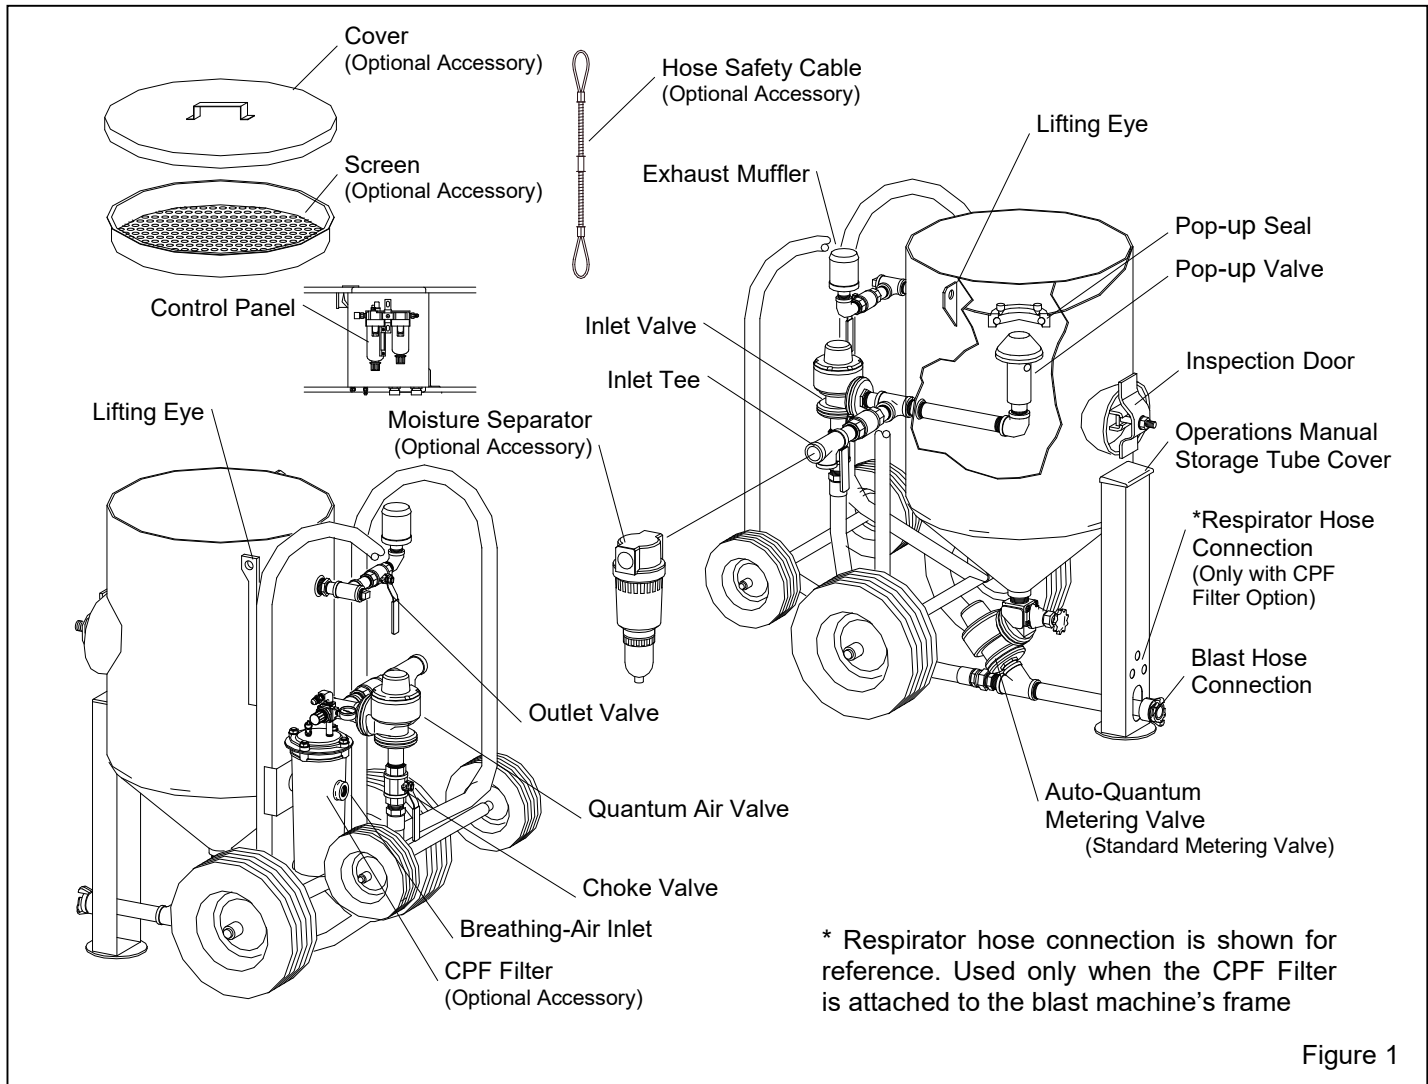

Figure 1
1.3.1.1 The primary components of the Contractor machines are shown in Figure 1. They include the blast machine with Quantum Remote Controls, electric control panel, with abrasive cut-off switch (ACS), Auto-Quantum abrasive metering valve, frame assembly, optional moisture separator/filter, and optional CPF particulate air filter.
2.5.2 Connect an air supply hose fitting that is compatible with the air supply hose from an air source that meets OSHA requirements for respirable air, to the CPF Filter inlet, as shown in Figure 1. Pressure supplied to the filter must not exceed 150 psi.
2.5.3 For models with CPF filter attached, connect the 5-ft. respirator lead hose to the fitting at the top of the CPF filter and the compatible fitting on the front leg of the blast machine. Refer to Figure 1 for the location of the fitting.